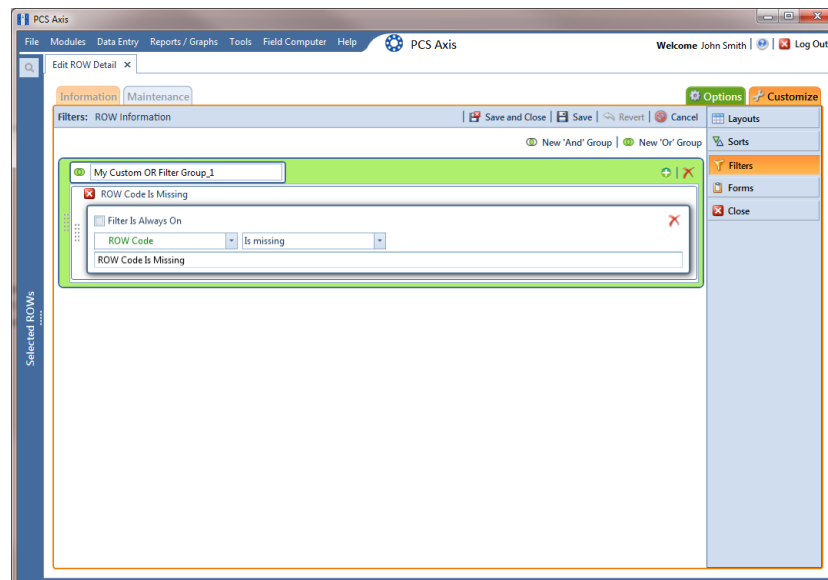

Figure 4-42. Filters
- 4 Click the **Customize** tab  then the **Filters** button  to open the *Filters* page (Figure 4-42).
- 6 Type a name for the filter group in the field **Include records that match any of these conditions** (Figure 4-42, page 178).